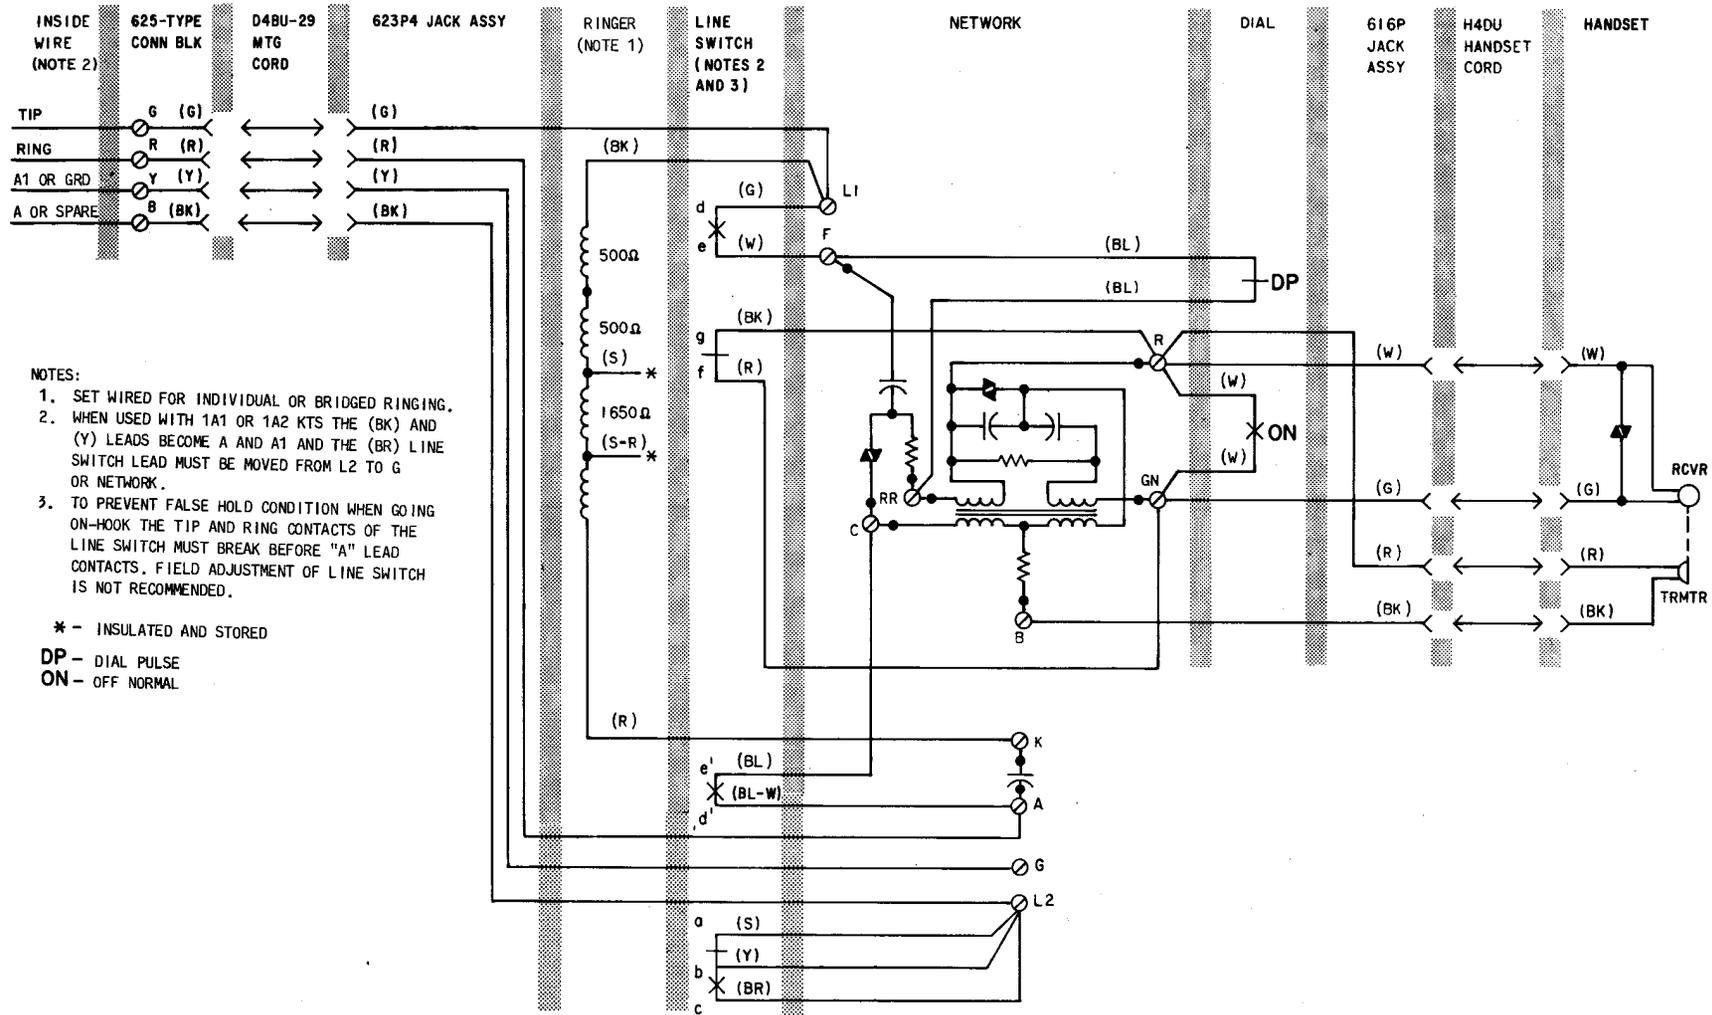

Fig. 4—881C111 Telephone Set, Connections
3.02 Connections for the 881C111 and 2881C111 telephone sets, for nonkey system use, are shown in Fig. 4 and 5.
3.03 Connections for 1A KTS require no telephone set modifications and are wired same as Fig. 4 and 5.